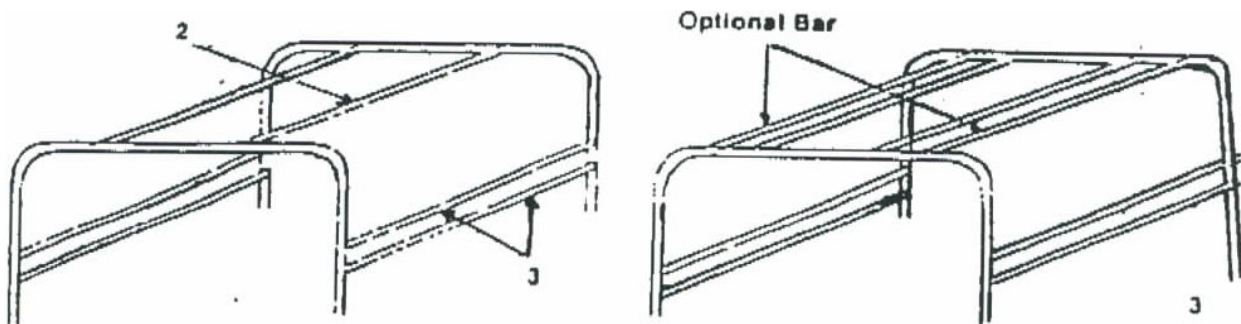

Figure 9.1 - Roll Cage Construction
- .5 The Roll Cage must have 2 safety bars (#2) on the top (see Figure 9.1) that run the full length of the cockpit opening, parallel with the side of the car, so that when the Microd lies on it's side, these bars measure 8" +/- 1" from the ground, preventing another car from injuring the driver from the top.